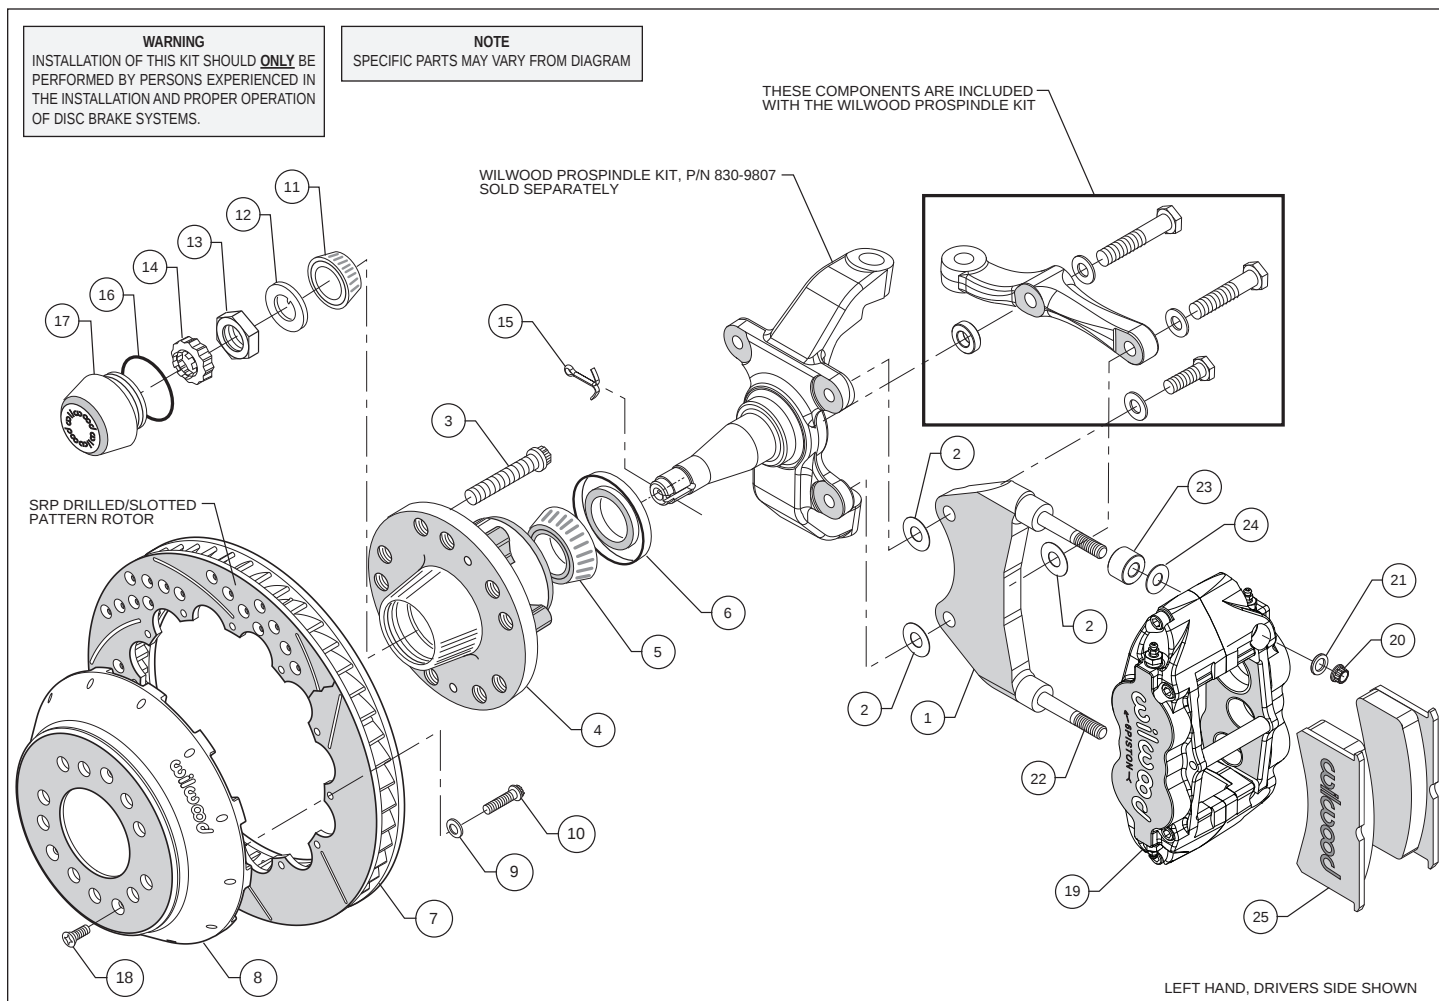
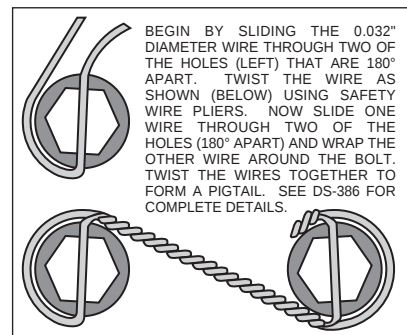

Figure 1. Typical Installation Configuration
Figure 3. Safety Wire Diagram
- Install wheel studs (3) into the hub (4). Torque to 77 ft-lb. **NOTE:** *There are two lug patterns of five holes each in the hub (5 x 4.50 and 5 x 4.75).* Make sure of the correct hole pattern for the wheel application before installing the studs into the hub.
- With the larger I.D. side of the rotor (7) facing away from the hat (8), bolt the rotor (7) to the hat (8) through the backside of the rotor using washers (9) and bolts (10) provided in the configuration pictured in figure 1. Using an alternating sequence, apply red *Loctite*® 271 to the threads and torque bolts to 155 in-lb. For an added measure of security, the bolts may be safety wired using standard 0.032 inch diameter stainless steel safety wire as shown in Figure 3. Please refer to Wilwood's data sheet DS-386 (available at www.wilwood.com/Pdf/DataSheets/ds386.pdf) for complete safety wire installation instructions.
- Pack the large inner bearing cone (5) with high temperature disc brake bearing grease (available from your local auto parts store) and install into the backside of the hub (4).
- Install the grease seal (6) by pressing into the backside of the hub (4).
- Pack the small outer bearing cone (11) with high temperature disc brake bearing grease and install into front of hub (4). Slide the hub assembly (3, 4, 5, and 6) with outer bearing cone (11) onto the spindle. Secure using spindle washer (12), adjusting nut (13) and nut retainer (14). Secure to spindle using cotter pin (15). Adjust bearing using a 12" wrench to tighten the adjusting nut while turning the rotor. When the rotor binds slightly, all the bearing parts are seated properly. Back of the nut 1/6 to 1/4 of a turn or enough to allow 0.001 to 0.007 end play. Lock the nut with a new cotter pin. **WARNING:** *Failure to back off the adjusting nut may cause the bearing to run hot and be damaged, which could cause the wheel to lock or come off during operation, creating a risk of serious bodily harm.*
- Install the o-ring (16) and the dust cap (17) onto the hub (4). Friction created by the o-ring (16) on the dust cap (17) keeps it from unscrewing on its own.
- NOTE:** *This kit contains distinct right and left hand calipers that must be mounted in a specific direction, as described below.* Lubricate the caliper mounting studs (22) with lightweight oil. Initially place two .035" thick shims (24) and one spacer (23) on each stud as shown in Figure 1. Mount the caliper (19) onto the bracket (1) using lock nuts (20) and washers (21), Figure 1. Ensure that the caliper is mounted so that the largest pistons are at the rotor exit end of the caliper, in relation to the direction of rotor rotation. Temporarily tighten the lock nuts and view the rotor through the top opening of the caliper. The rotor should be centered in the caliper. If not, adjust by adding or subtracting shims (2) between the bracket and the spindle, or between the spindle and the steering arm, whichever is applicable to gain the proper alignment. Always use the same amount of shims on both the two mounting bolts. Once the caliper alignment is correct, remove the bracket mounting bolts one at a time, apply red *Loctite*® 271 to the threads, and torque to specifications outlined in the ProSpindle kit.
- Remove the caliper center bridge pad retainer bolt, nut, and tube from the caliper. Slide the brake pads (25) into place. They should install easily without interference. Check that the outside radius of the brake pad is aligned with the outside diameter radius of the rotor face. Add or subtract shims (24) between the caliper and mount bracket to gain the proper alignment. Reinstall the center bridge pad retainer tube, bolt, and lock nut. The locknut should be snug without play in the bolt or tube. Be cautious not to over tighten.
- Remove the lug nuts that were holding the hat in place. Install three flat head socket head screws (18) through the small holes in the hat (8) and torque to 85 in-lb. Install the wheel and torque the lug nuts to manufacturer's specification. Check to see that the wheel rotates freely without interference.
- Once all clearances have been checked, remove the wheel, caliper, hat, and rotor from the spindle and hub. Secure the caliper mounting bracket (1) to the spindle using red *Loctite*® 271 on the bolt threads. Torque the ProSpindle supplied bolts to 47 ft-lbs. Reinstall the hat and rotor assembly and again use several lug nuts to hold it in place. Reinstall the caliper, torque the caliper nuts (20) to 28 ft-lbs.